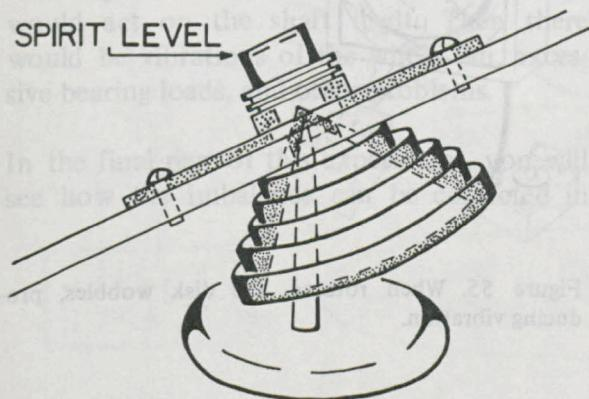

Figure 51. The static balancer suspends the disk at its center of rotation so that it can freely tilt.
2. Place the disk on the static balancer, as shown in cross section in Figure 51. The disk will tilt because it is unbalanced.